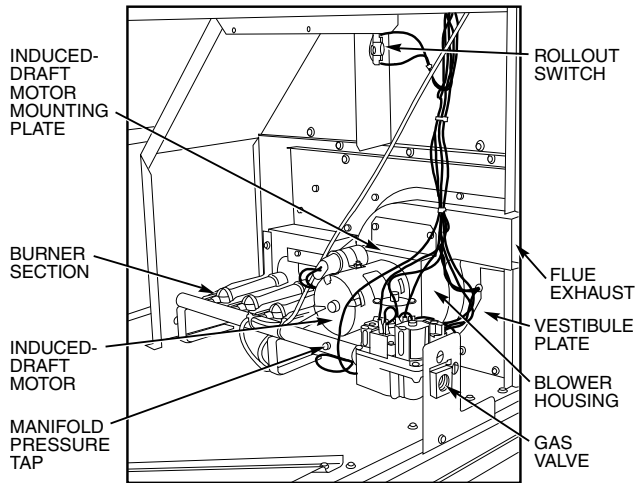

Fig. 46 — Burner Section Details
The heat exchanger system consists of a gas valve feeding multiple in-shot burners off a manifold. The burners fire into matching primary tubes. The primary tubes discharge into combustion plenum where gas flow converges into secondary tubes. The secondary tubes exit into the induced draft fan wheel inlet. The induced fan wheel discharges into a flue passage and flue gases exit out a flue hood on the side of the unit. The induced draft fan motor includes a flue gas pressure switch circuit that confirms adequate wheel speed through the Integrated Gas Control (IGC) board. Safety switches include a Rollout Switch (at the top of the burner compartment) and a limit switch (mounted through the fan deck, over the tubes). (See Fig. 46 and 47.)
2. Remove the seven screws attaching the induced-draft motor housing to the vestibule plate. (See Fig. 46.)
See Fig. 46, 49, and 53.